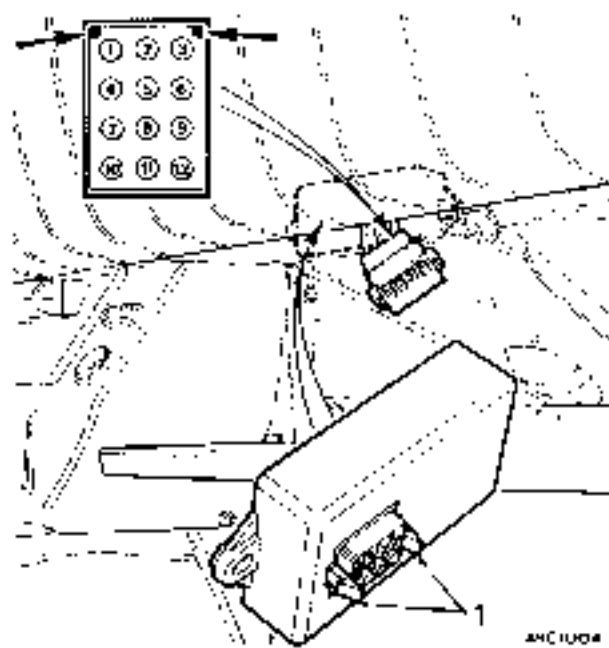

Fig. Nb.11
6. Compress the two remaining tags (see Fig. Nb.11) on the seat belt system control unit and disconnect the wiring plug from the control unit.
Referring to Figs. Nb.11 and Nb.12 for circuit diagram and wiring harness plug pin identification numbers, carry out the following test procedure using a 12-volt 2-watt test lamp and a length of insulated cable.